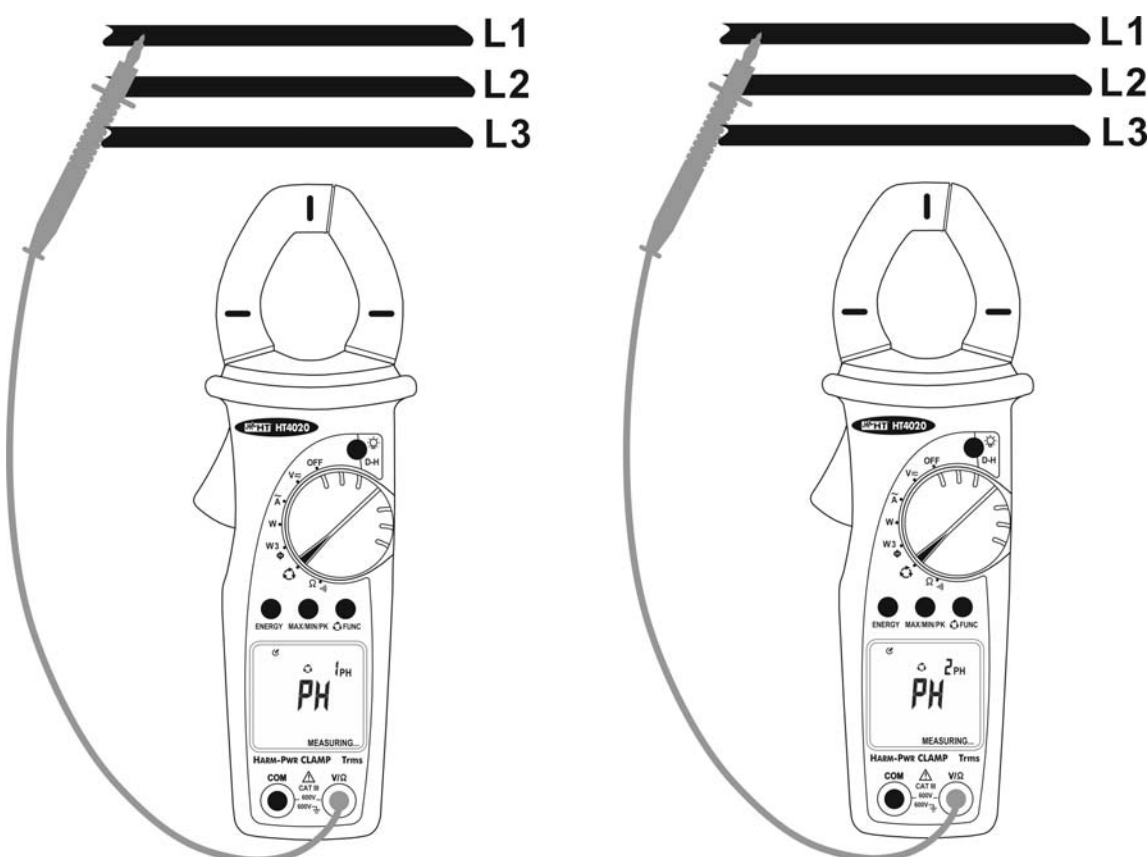

Fig. 14: Use of instrument for phase coincidence indication with 1 wire
3. Connect the red terminal to the L1 phase conductor of the first 3-phase system (see Fig. 14 – left part). If necessary use the rubber cup to insert red test lead
5. After about one second “MEASURING” appears on the display indicating that the instrument is ready to execute the first measurement (see Fig. 14 – left part)
8. Connect the test lead to the L1 phase of the second 3-phase system (see Fig. 14 – right part)